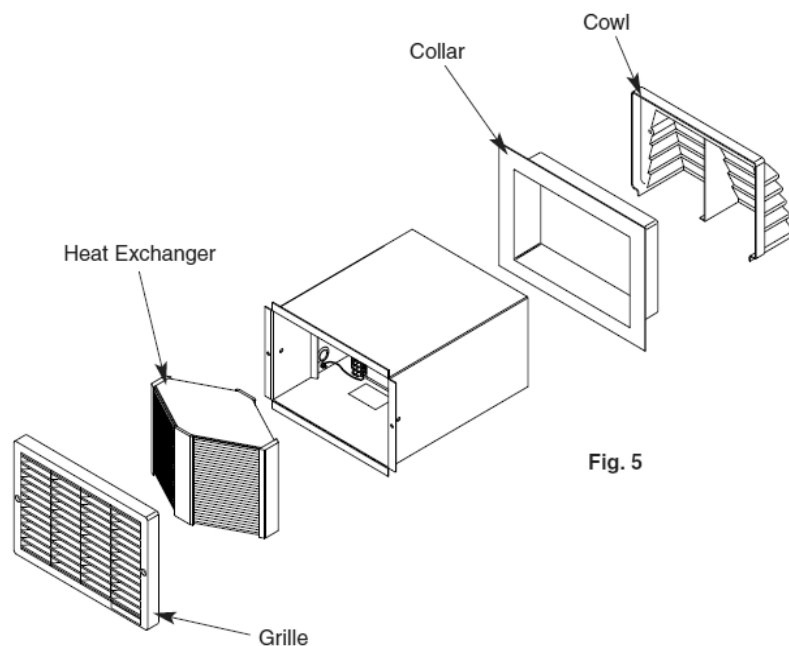

Fig. 5
6. Remove the grille, heat exchanger, outer collar and cowl from the unit (Fig. 5).